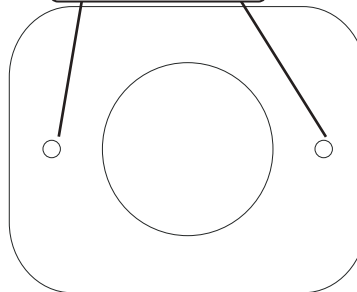

Figure 1
3. From under the dash, mark the (2) mounting holes onto the defrost ducts.
4. Remove the defrost ducts, and drill (2) 11/64" holes into each duct (See Figure 1, below).
5. Install each defrost duct into the dash defrost duct outlet, and secure them using (2) #8 x 1/2" pan head screws (See Photo 5, below).